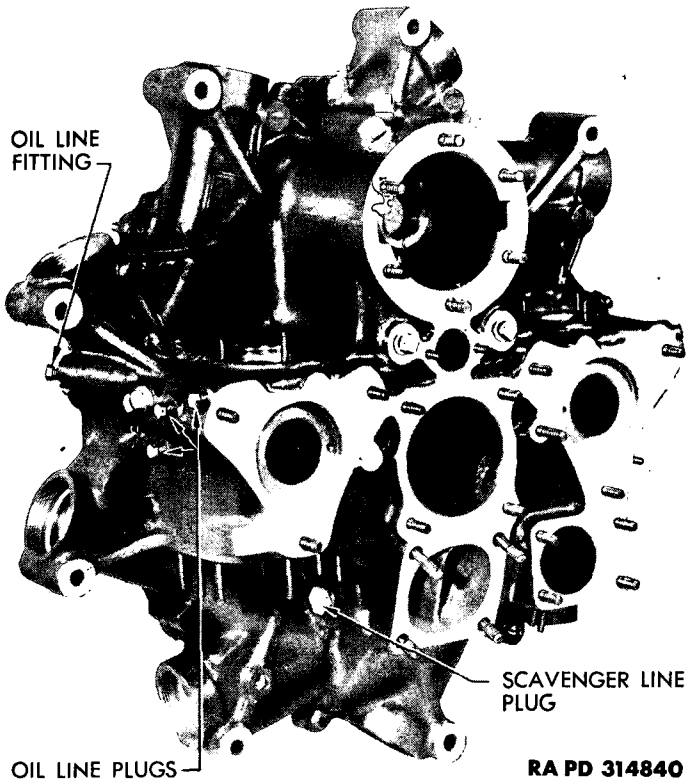

Figure 183 – Oil Plugs in Rear Section
(1) **REMOVE NO. 1 OIL LINE PLUG** (fig. 183). Plug oilhole to oil standpipe. Insert nozzle of compressed air hose in oil line plug opening, and blow out line. Make certain air passes through opening to generator idler gear shaft.
(2) **PLUG GENERATOR IDLER GEAR SHAFT OPENING.** Blow out oil line to oil standpipe opening in front of rear crankcase section through the No. 2 plug opening (fig. 183).